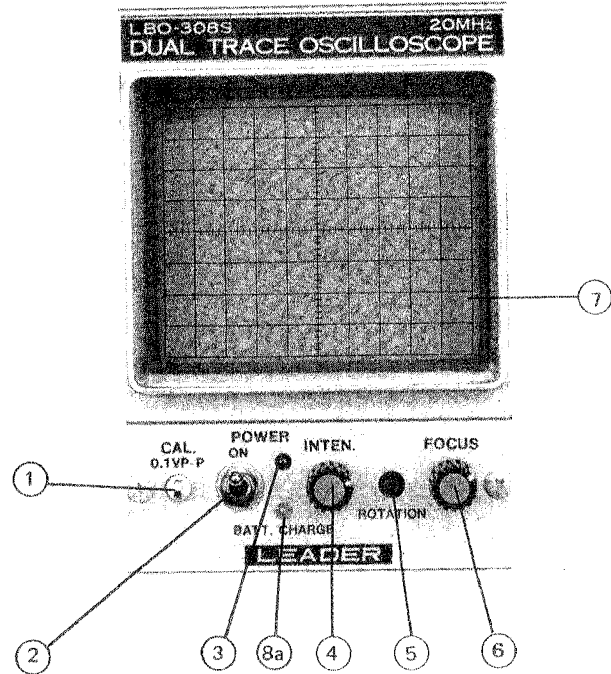

Figure 2-1. Display block
Before turning this instrument on, familiarize yourself with the controls, connectors, indicators, and features described in this section. The descriptions given below are keyed to the items called out in Figures 2-1 to 2-4.
Refer to Figure 2-1 for references (1) to (8).
- ① CAL connector Provides fast-rise square wave of precise amplitude for probe adjustment and vertical amplifier calibration.
- ② POWER switch Turns instrument power on and off.
- ③ POWER lamp Lights when instrument is energized.
- ④ INTEN control To adjust the brightness of the CRT display. Clockwise rotation increases brightness.
- ⑤ ROTATION Provides screwdriver adjustment of trace alignment with regard to the horizontal CRT graticule lines.
- ⑥ FOCUS control To attain maximum trace sharpness.
- ⑦ CRT Display device having a grid (graticule lines) inscribed on the inner CRT surface for parallax-free measurements. Blue filter provides good contrast and pleasing display.
- ⑧a BATT. CHARGE lamp (LBO-308S only) Glows red when battery is charging; glows green when battery is fully charged.